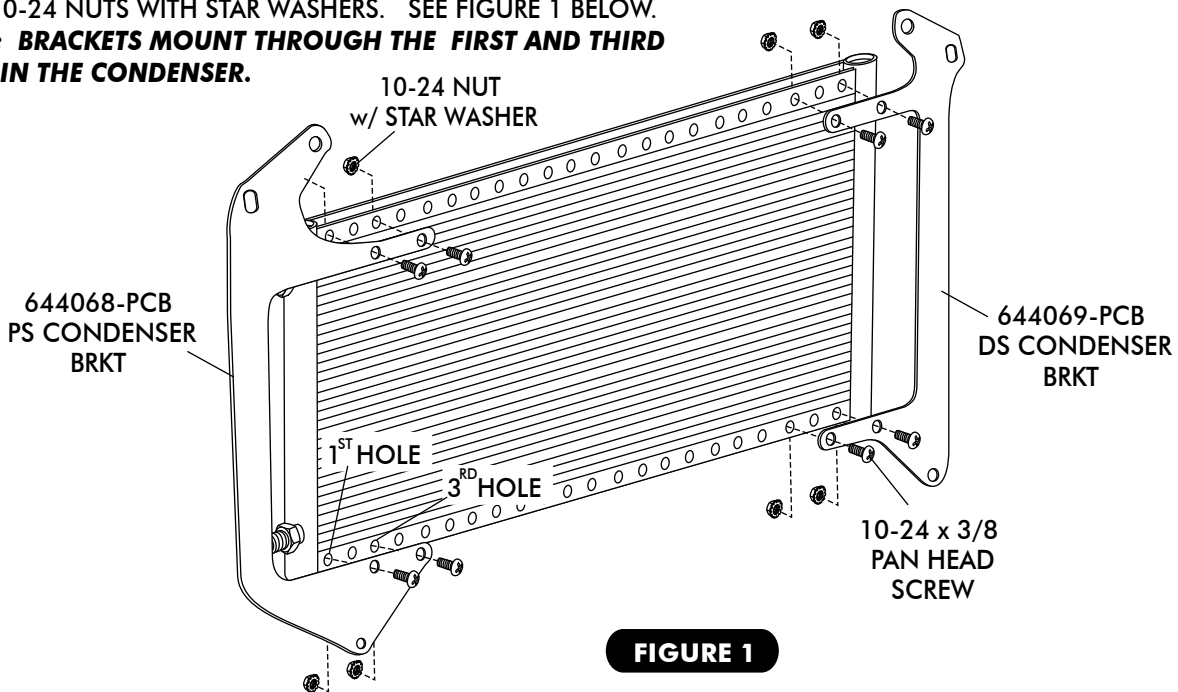

FIGURE 1
- INSTALL CONDENSER MOUNTING BRACKET ON TO CONDENSER USING 10-24 x 3/8 PAN HEAD SCREWS AND 10-24 NUTS WITH STAR WASHERS. SEE FIGURE 1 BELOW.